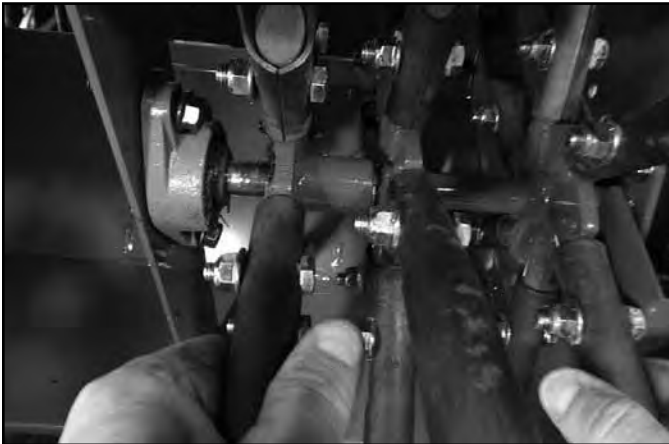

Fig. 150
12. Slide the inner spyder toward the outer stationary spyder (Fig. 150).